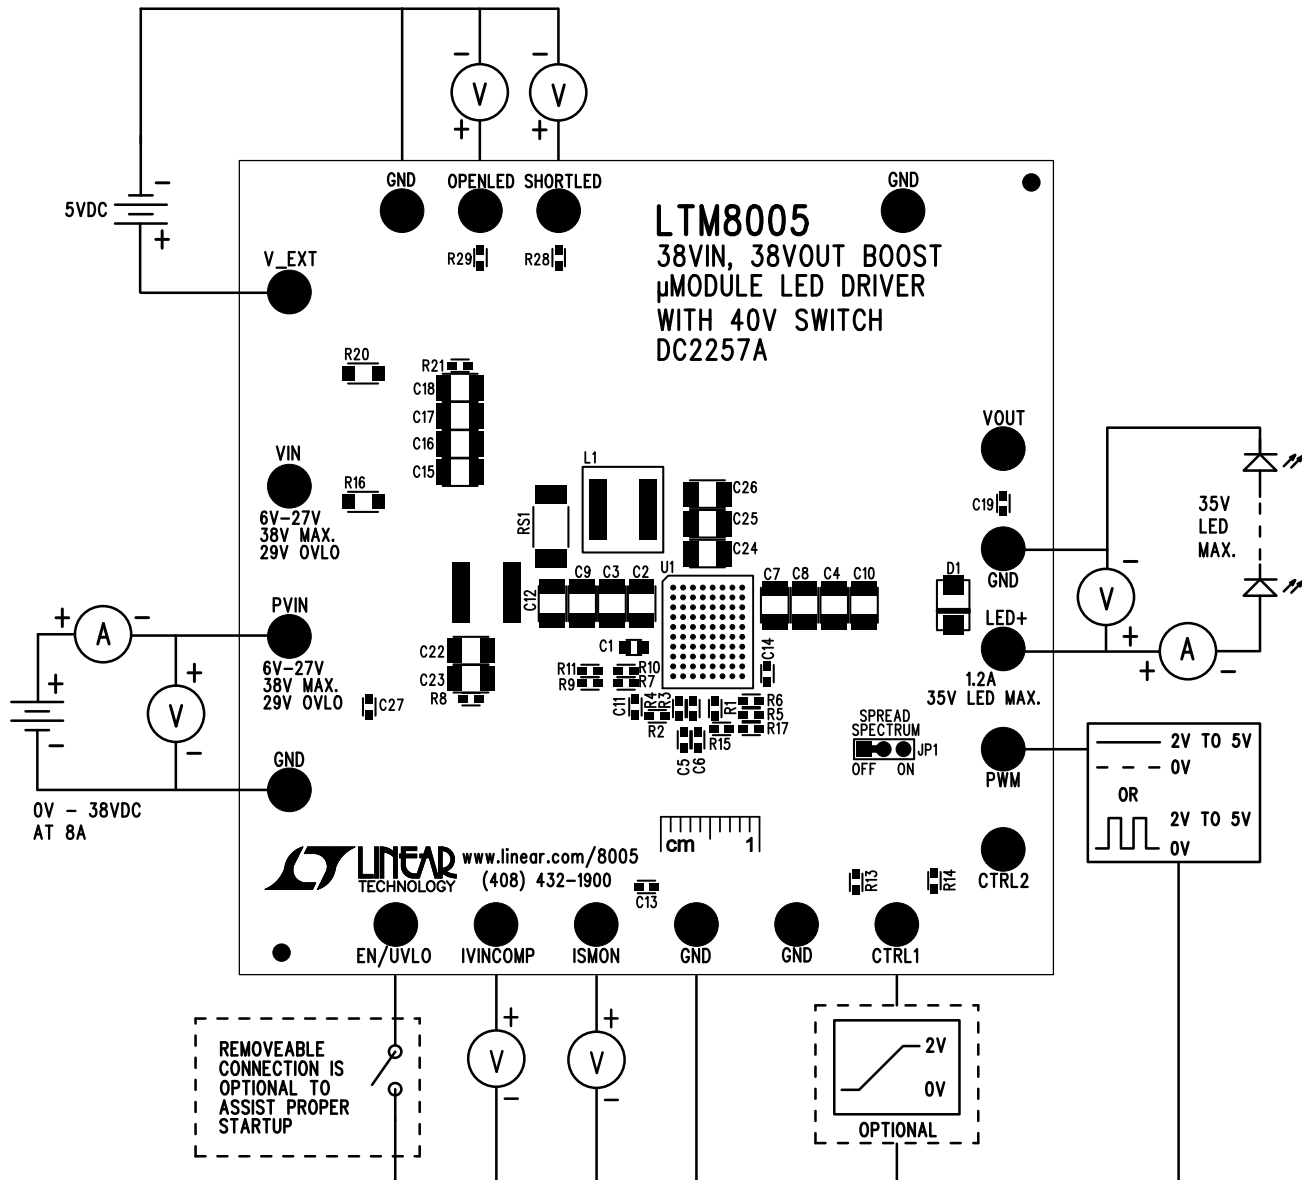

Figure 1. Proper Measurement Equipment Setup
To use DC2257A to evaluate the performance of the LTM8005, refer to Figure 1 for the proper measurement equipment setup and then follow the procedure below.
1. Connect a string of LEDs with a forward voltage of 35V or less, but greater than the PVIN voltage, to the LED⁺ and GND terminals on the PCB as shown in Figure 1.